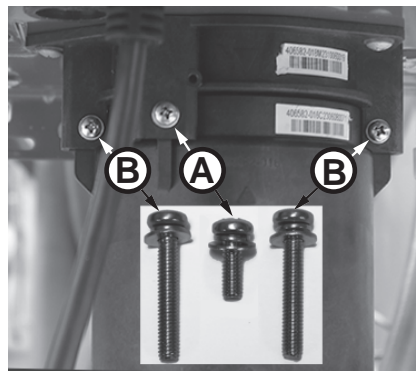

Figure 239 - Identify cartridge screws
- 5 Locate the three (3) screws securing the X3®/Bypass cartridge as shown in Figure 239. Remove the **(A)** M4-12mm screw and the two **(B)** M4-25mm screws from cartridge. Place screws aside in a safe place for reinstallation.